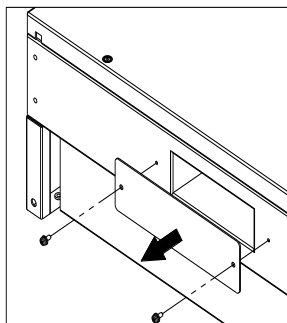

Figure 3-8 Cover plate of the main housing
(4) Install the wiring box
- ① Remove the cover plate at the bottom of the main housing. (see Figure 3-8)